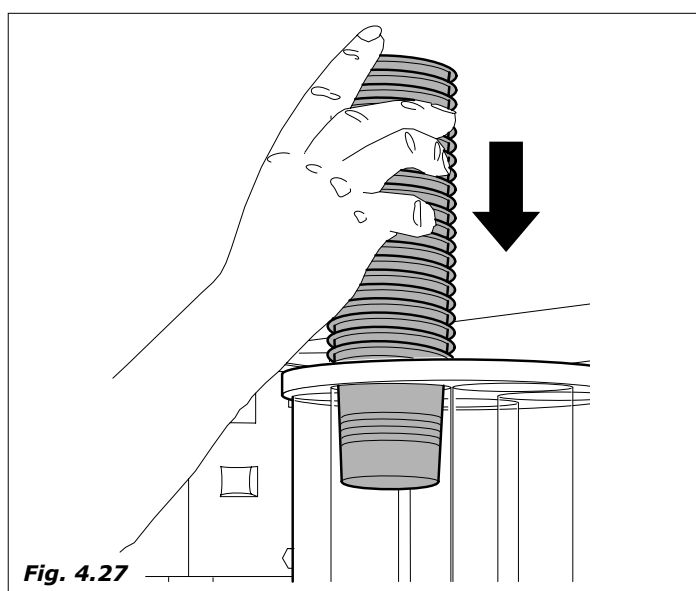

Fig. 4.27
- Check that the cup column is not aligned with the distribution outlet, then fill all the columns proceeding in an anti-clockwise sense, opposite sense (when the column is aligned with the distribution outlet), close the door and switch on the machine so that the cup column rotates and automatically places itself in a position in which it is not aligned with the inlet and then proceed to fill (Fig.4.27)